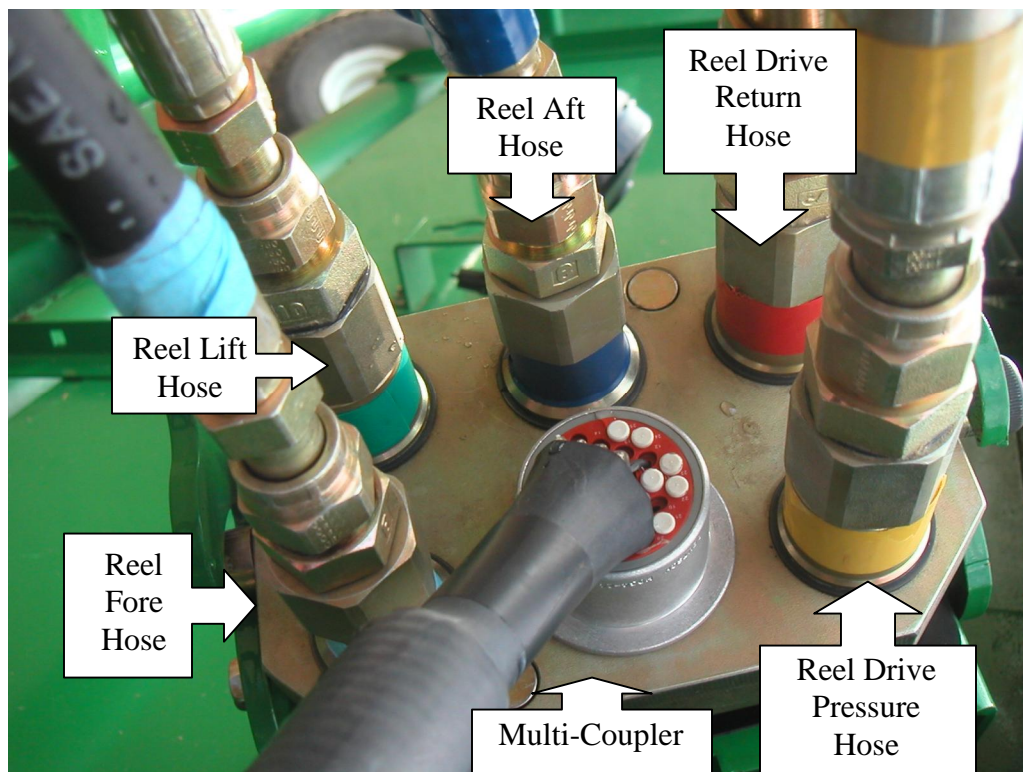

Figure 1
2. Using the enclosed labels, identify all hoses going to the Multi Coupler block to reduce any future confusion (**See Figure 1**).